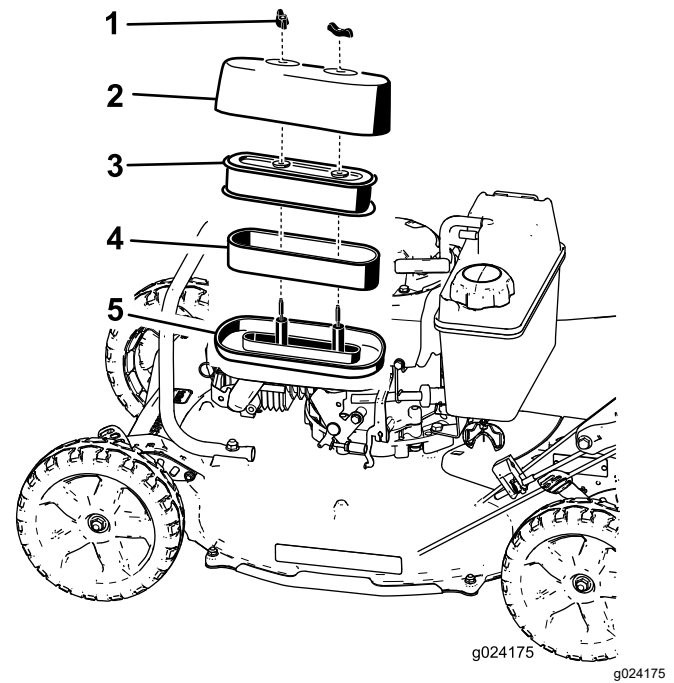

Figure 24
3. Remove the 2 nuts that secure the cover (Figure 24).
5. Remove the foam and paper elements from the base of the air filter (Figure 24).
6. Remove the foam element from the paper element (Figure 24).